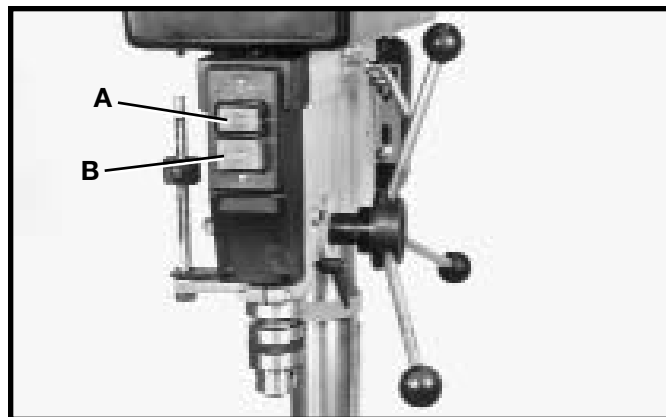

Fig. 17
The power switch is located at the front of the drill press head. To activate the drill press, press the green start button (A) Fig. 17. To stop the drill press, push the red button (B).